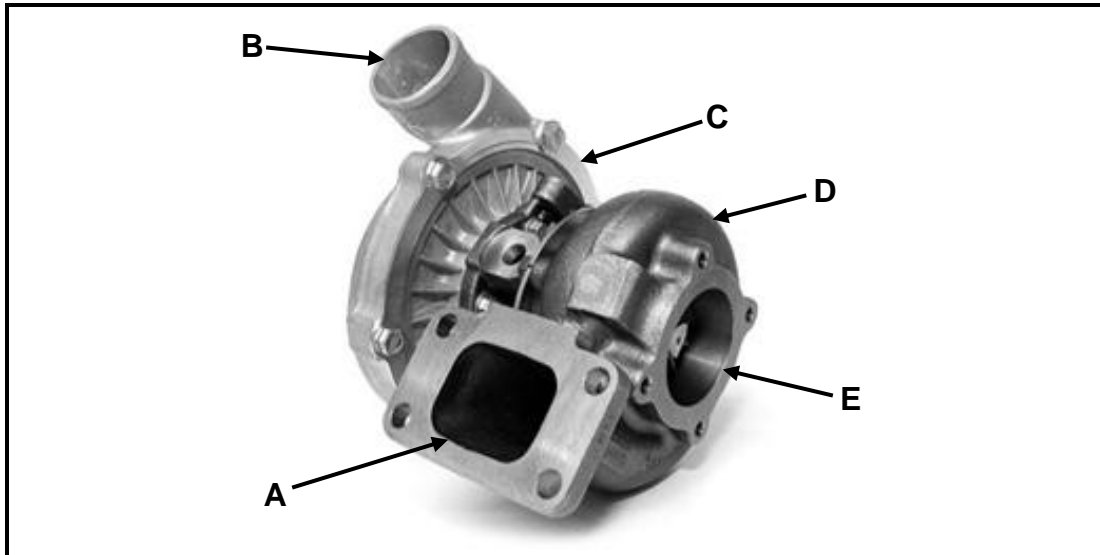

FIGURE 6.2
6.2 FIGURE 6.2 below shows a component that is fitted to an internal combustion engine to increase the power output. Answer the questions that follow.
6.2.1 Identify the component shown in FIGURE 6.2. (1)
6.2.2 Label **A–E**, the parts of the component in FIGURE 6.2. (5)
6.2.3 State the main function of the component in FIGURE 6.2. (1)